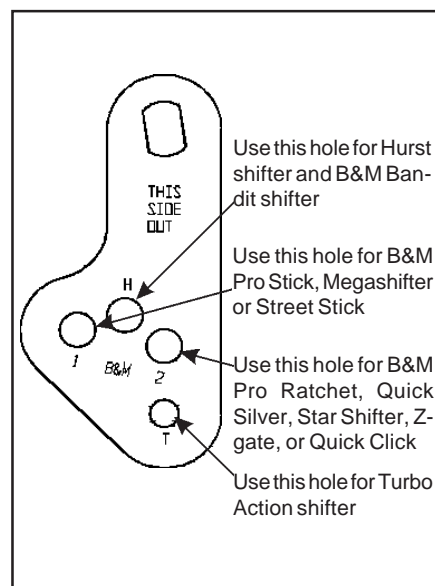

Figure 9
STEP 35. Move the transmission selector lever by hand to full rear position (LOW). Operate the shifter lever to the low gear position (ratcheted all the way back). Adjust the large nuts on the cable so that the swivel will slide into the hole in the selector lever that is labeled "B&M2". See **figure 9**. Tighten the large nuts completely. Be sure that the swivel will slide freely in and out of the hole in the selector lever. **Note: The shifter will not operate correctly unless the B&M2 hole in the shift lever is used.**